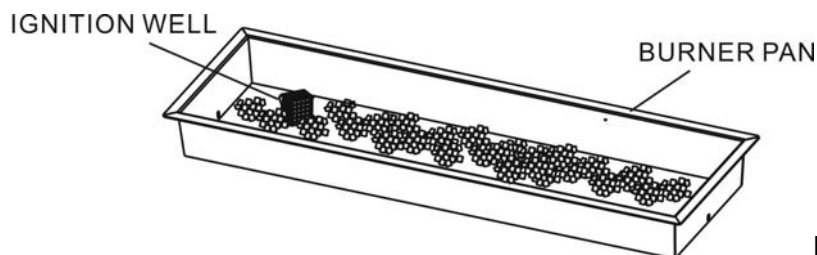

Figure 12
13. Pour the lava rocks or fire ice into the burner pan completely covering the burner. The weight of lava rocks is (3.6kg plus and minus 10%); the weight of the fire ice is (8kg plus and minus 10%). Remove any lava rocks or fire ice on top of the ignition well. See Figure 12.